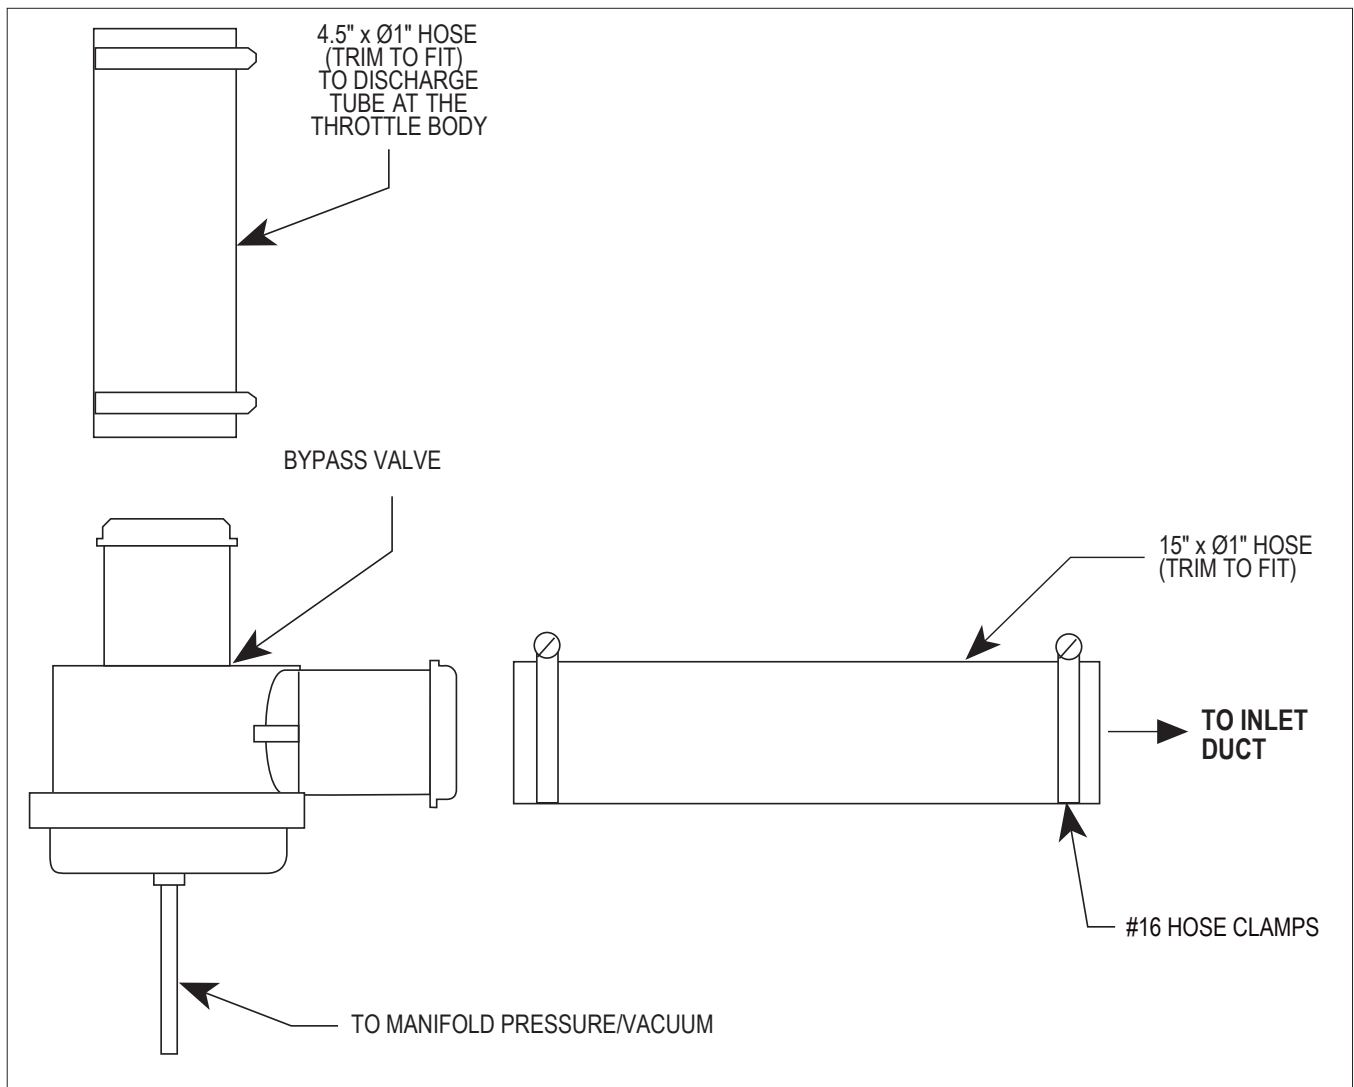

Fig. 8D-a
4. Attach the open end of the 4.5" hose to the by-pass port on the cast discharge duct and secure using a #16 hose clamp. The open end of the 15" long hose will be attached to the inlet duct in a later step. (See Fig. 8D-a, 8D-c.)